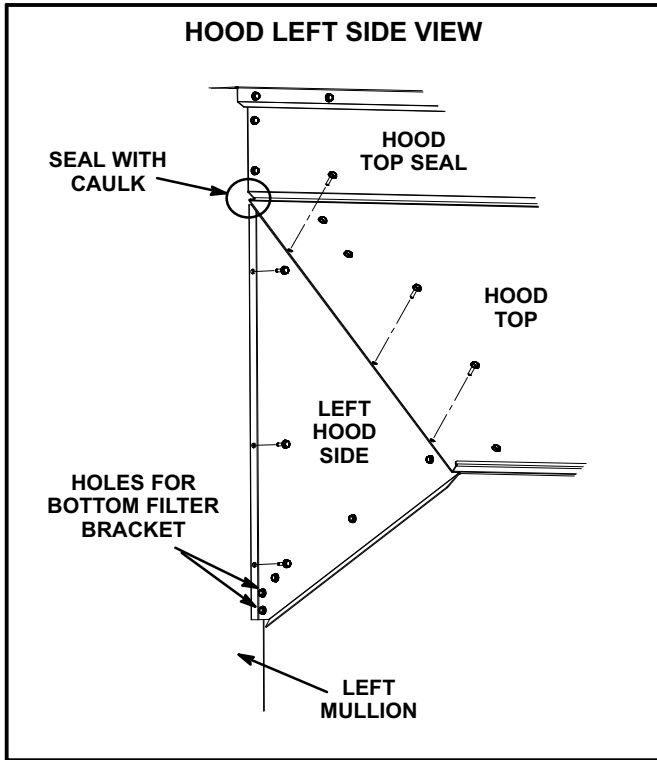

FIGURE 12
- 9- Secure left hood side to the hood top. See figure 12. Secure the left hood side to the unit using three screws removed in step 4. See figure 12.
- 18- Caulk (field-provided) both ends of the top seal and hood top as shown in figures 12 and 13.